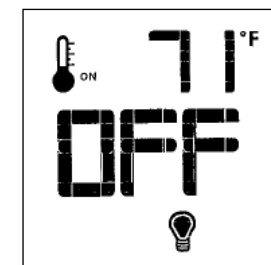

Fig. 14.15. Lamp Control.
- With the Remote ON, press the Mode Key to index to the Lamp icon. Figs. 14.15.